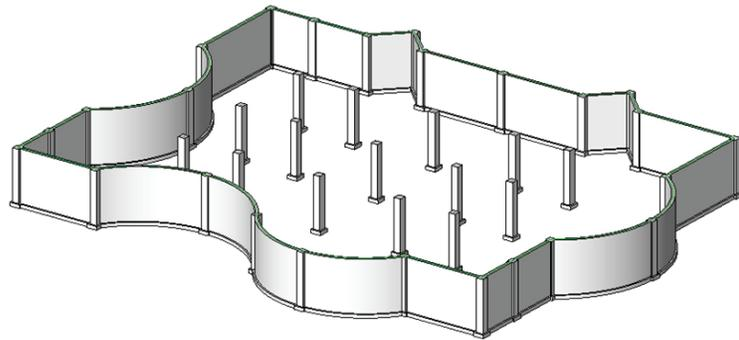

Figure 7–46
15. Each column should have a isolated footing under the pier as shown in Figure 7–46.